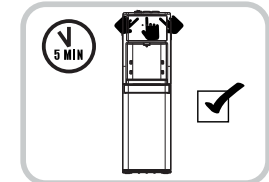

Fig.2
5. Plug the dispenser unit into the electrical outlet. Please review the **IMPORTANT SAFETY INSTRUCTIONS** and **INSTALLATION GUIDELINES** before doing so. The unit will start to fill the cold and hot water tanks (it will take approx. 5 minutes). Allow the water to settle into the cold and hot water tanks for 5 minutes. Push each water tap (hot and cold temperature) to ensure water is running through the unit. (Fig. 2)